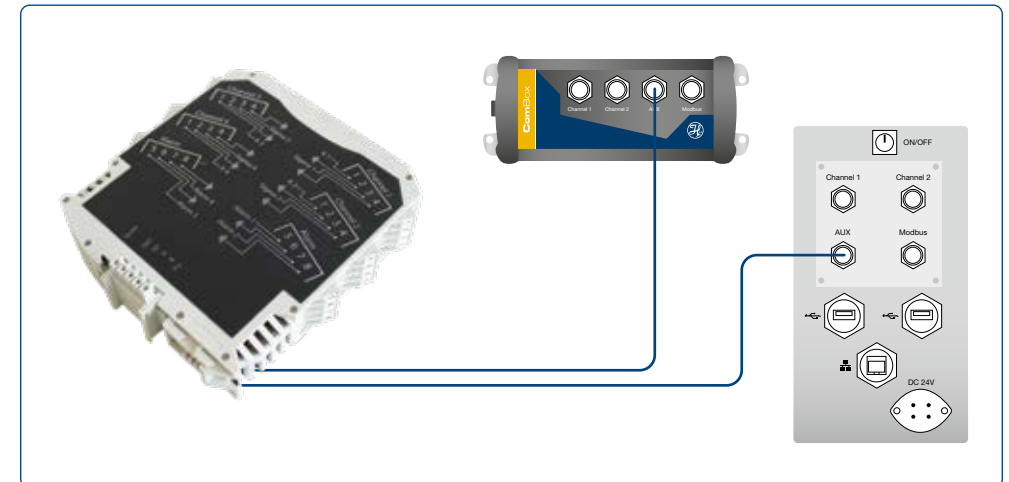

Figure 85: Connecting the 4-20mA Analog Box with the Arc View and ComBox.
1. Connect the Arc 4-20 mA Output Box to the AUX M12 connector of the Control Unit (Figure 85).
1. Go to the Advanced settings (Figure 13) and select the 4-20 mA Configuration (Figure 85).